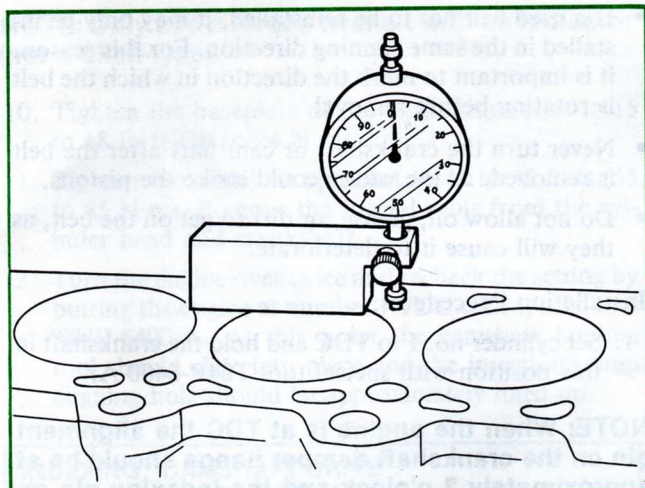

Figure 27. Setting Dial Indicator to Zero
1. Mount the dial indicator (part no. D82L-4201-A) into the base (part no. D84P-6100-A) and set to zero with pre-load on the cleaned cylinder head sealing surface (Fig. 27).